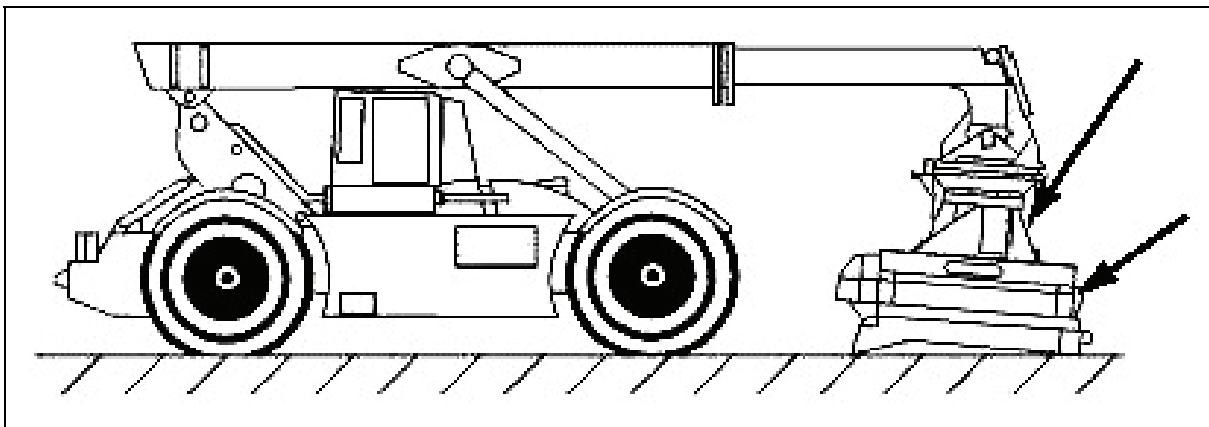

Figure 3-158. Positioning Tophandler Over Forklift Kit
- a. Position tophandler directly over and level with forklift kit (see Figure 3-158).